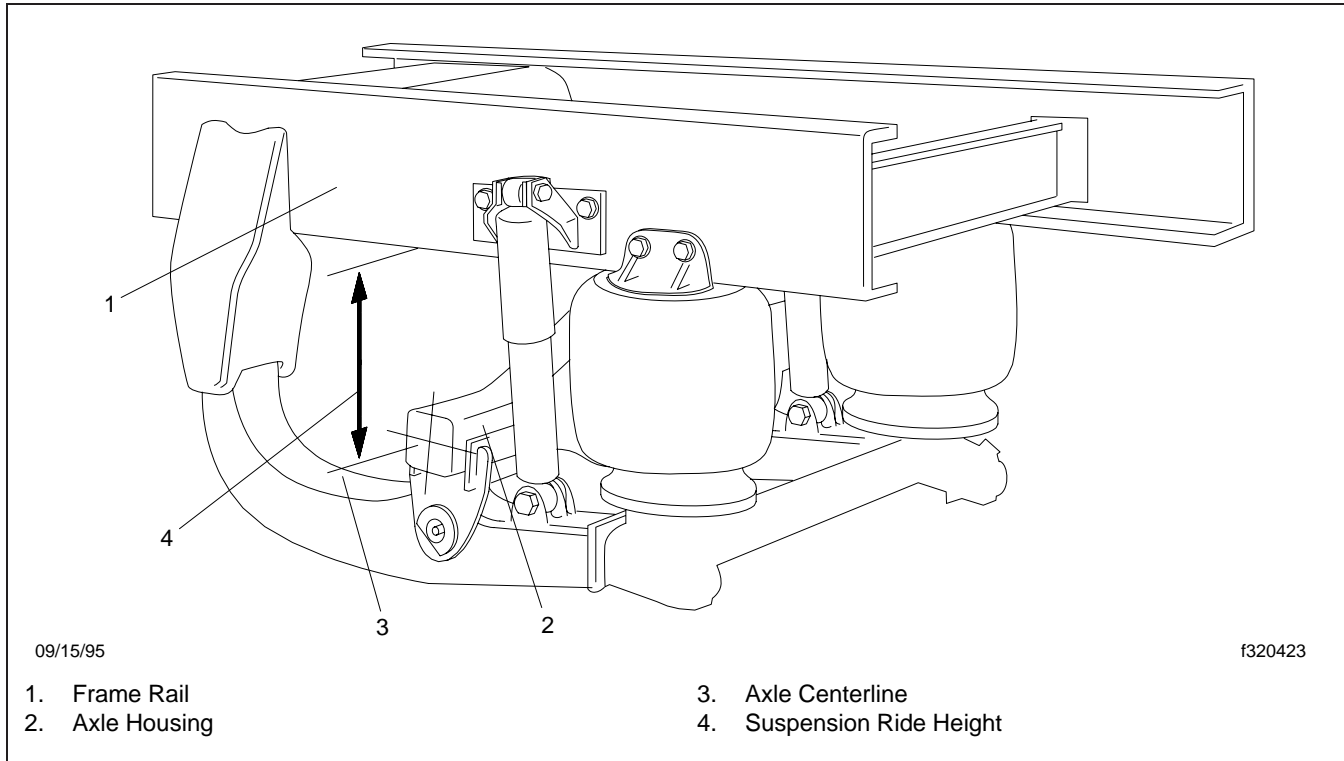

Fig. 13, Neway Ride Height Inspection
5. Check the riding height of the air suspension by measuring the distance from the centerline of the rear axle (see **Fig. 13**) to the bottom of the frame rail. If the riding height is incorrect, adjust the air-suspension.